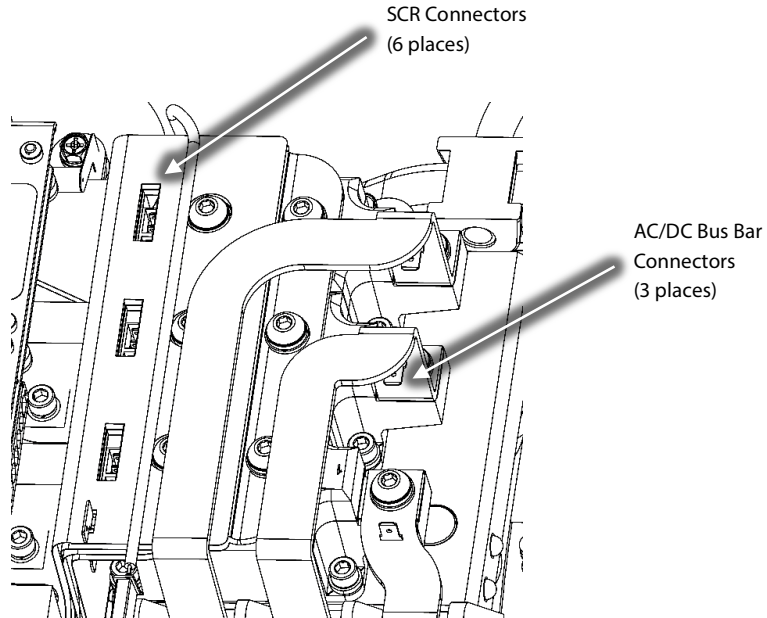

Figure 6 – SCR Gate Cable and AC/DC Harness Connections
13. Unplug the SCR Gate cable harness from the AC/DC Bus and SCRs noting its orientation. Refer to Figure 6 (SCR Gate Cable and AC/DC Harness Connections) for the location of the connectors.